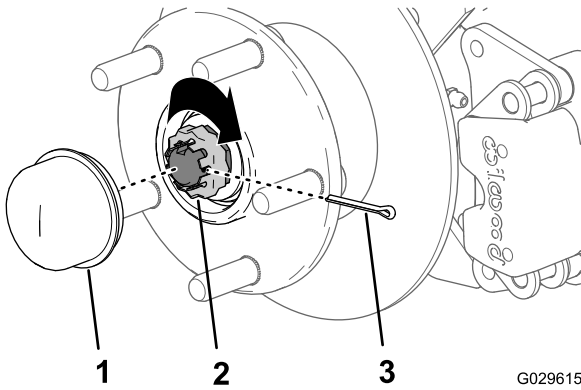

Figure 33
8. Install the retainer over the nut and check the alignment of the slot in the retainer and the hole in the spindle for the cotter pin (Figure 33).
9. Install the cotter pin and bend each leg around the retainer (Figure 33).
10. Install the dust cap onto the hub (Figure 33).